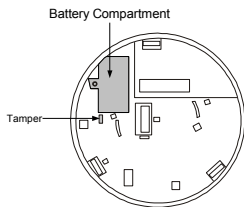

Figure 8: Batteries Compartment/Tamper
- Ⓔ Dead air spaces are often at the top of a peaked roof, or in the corners between ceilings and walls. Dead air may prevent smoke from reaching a detector. See Figures 8 and 9 for recommended mounting locations.
- 6 ~~Open the batteries compartment cover (see Figure 8).~~